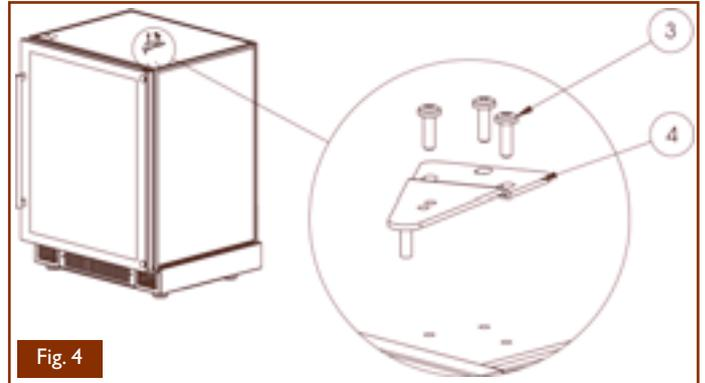

Fig. 4
- Fit the hinge and pivot (4) using the screws (3) so that the door is parallel to the cabinet body (Fig.4).